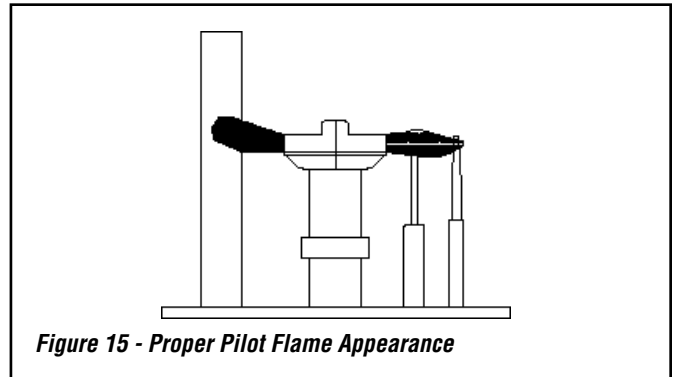

Figure 15 - Proper Pilot Flame Appearance
Step 19. Light the appliance per the lighting instructions label on appliance (located below glass door) or lighting instructions on **Page 17** of the *Installation and Operation Manual*. Inspect for proper pilot and burner flame appearances (see **Figures 15 and 16** below). Also see *Flame Color and Behavior* and *Inspect The Pilot System For Proper Flame* on **Page 18** of the *Installation and Operation Manual*.